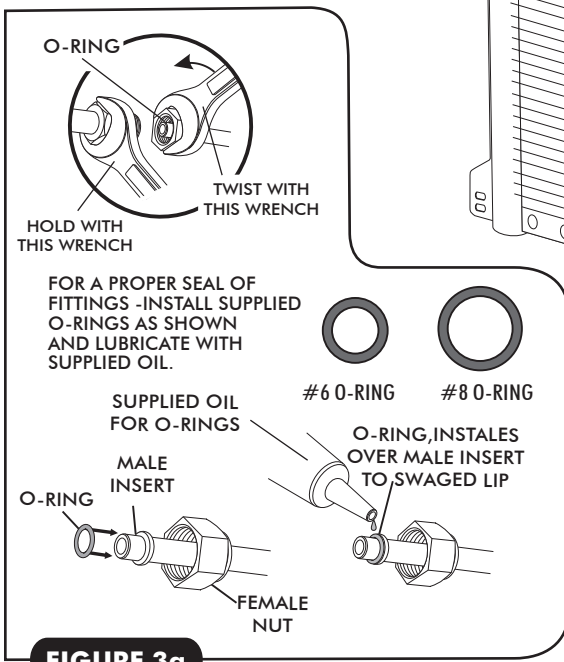
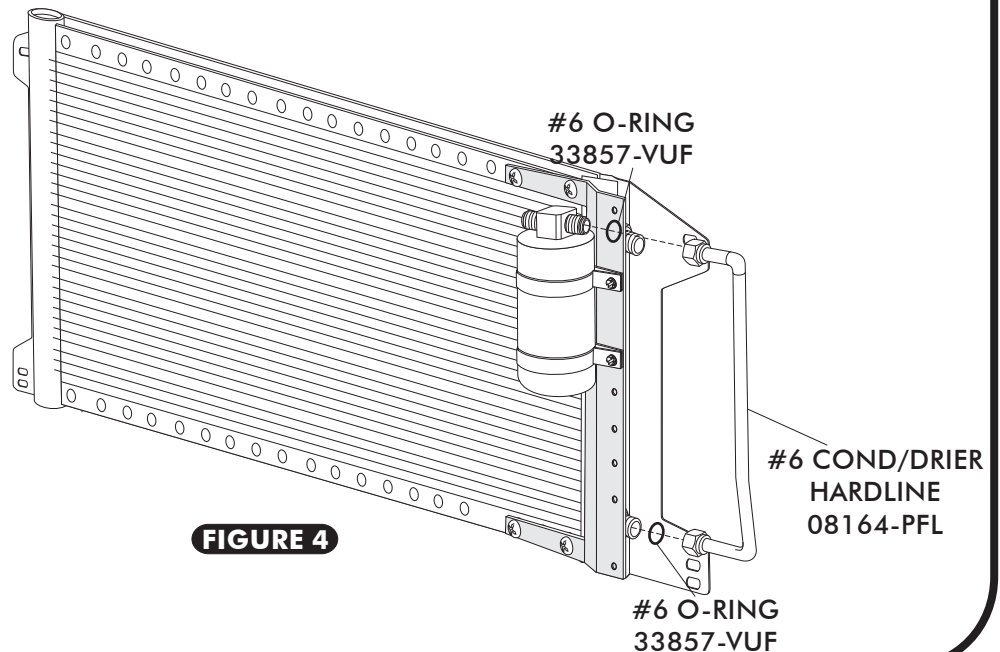

FIGURE 3a
FIGURE 4
- LUBRICATE (2) #6 O-RINGS SEE FIGURE 3a ABOVE, AND INSTALL THE #6 DRIER/COND HARDLINE AS SHOWN IN FIGURE 4. TIGHTEN FITTINGS AS SHOWN IN FIGURE 3a ABOVE.
- LUBRICATE A #6 AND #8 O-RING AS SHOWN IN FIGURE 3a ON PAGE 7. INSTALL THE #6 DRIER HARDLINE AND THE #8 CONDENSER HARDLINE AS SHOWN IN FIGURE 9 BELOW. TIGHTEN FITTINGS AS SHOWN IN FIGURE 3a ON PAGE 7.